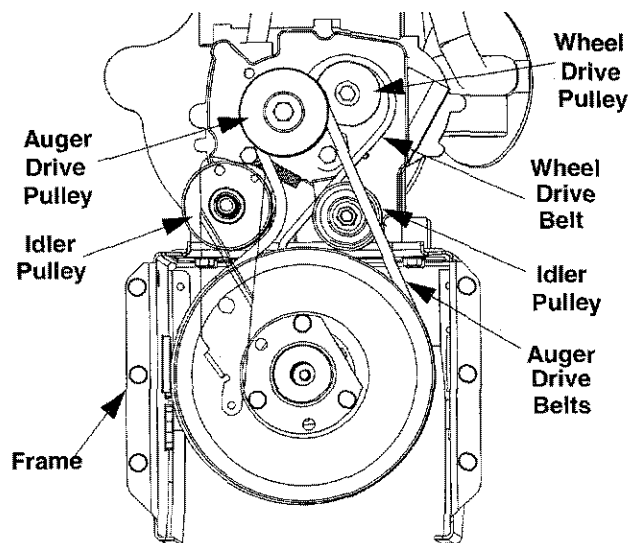

Figure 19
- Roll the front and rear auger belts off the engine pulley. See Figure 19.
- Pull idler pulley up, and lift belt off engine pulley and friction wheel disc. See Figure 19.